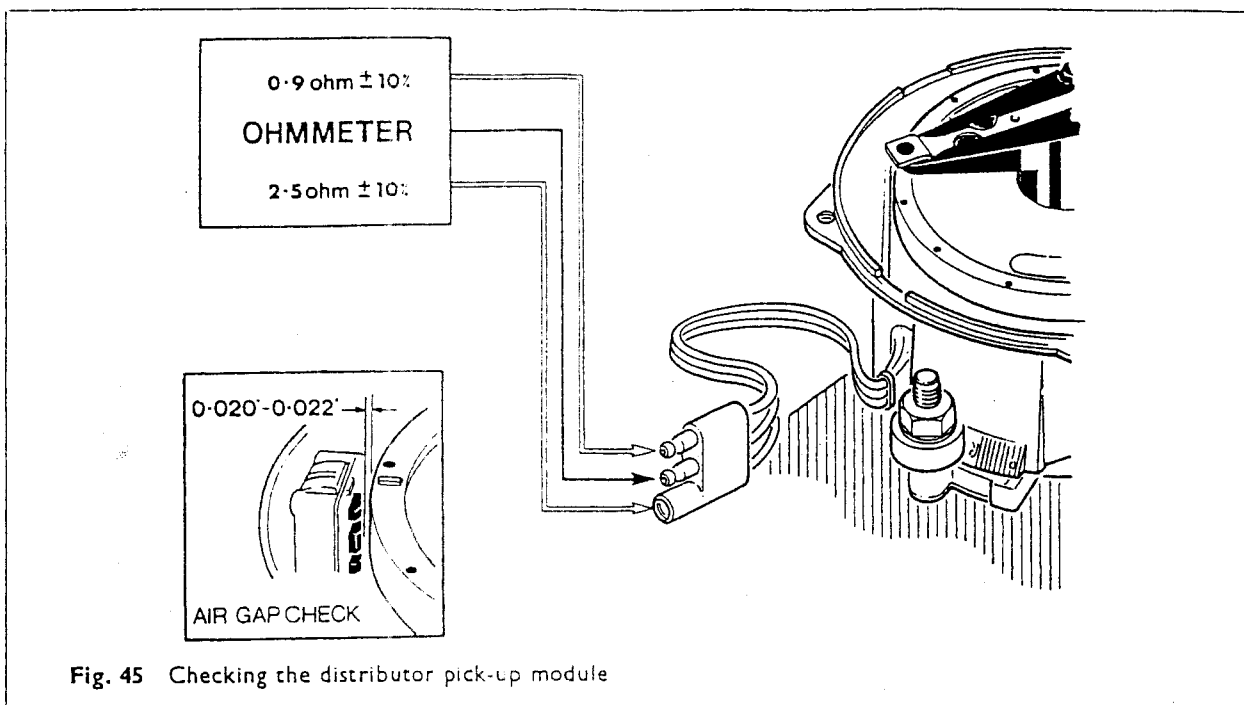

Fig. 45 Checking the distributor pick-up module
- (a) Module air gap - Rotate the engine so that the ferrite rod marked No. 1 cylinder on Jaguar or the rod immediately under the rotor electrode on Aston Martin, is in line with the pick-up module, see Fig. 45.